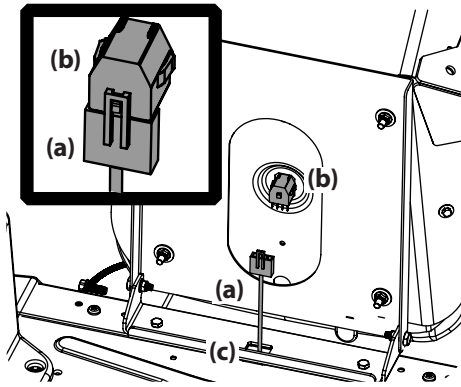

Figure 2-13
3. If necessary, securely connect the seat switch wiring harness (a) to the seat switch (b) as shown in Figure 2-13. Be sure to push the excess wire from the wire harness into the seat box hole (c) before continuing.